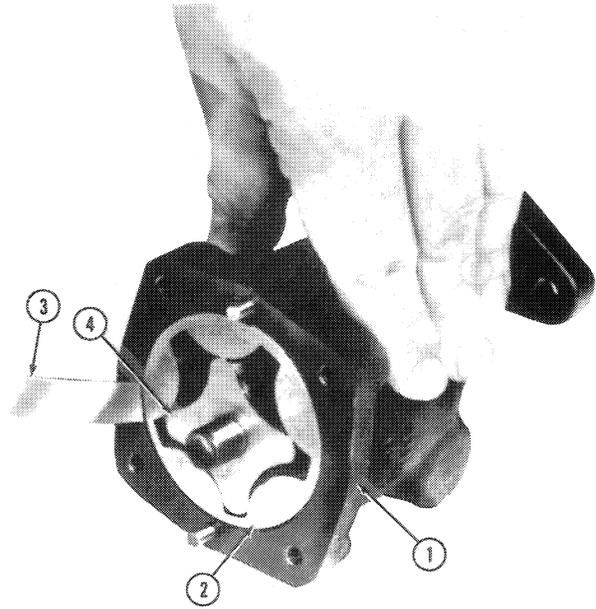

Figure 38
4. Use feeler gauges to measure the clearance between the periphery of the outer rotor and the pump body, Figure 38.